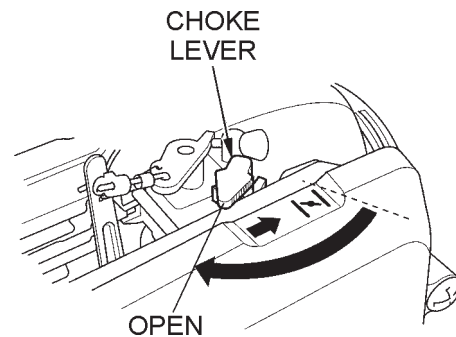

Figure 9. Choke Lever
3. Close the choke lever (Figure 9) and move the throttle lever to the **"Full Open"** position. Turning the choke lever 90 degrees clockwise closes the choke. In cold weather, start the unit with choke fully closed. In warm weather or when the engine is warm, the unit can be started with choke halfway or completely open.
5. If engine fails to start, move the choke lever (Figure 9) to the half open position to avoid flooding.